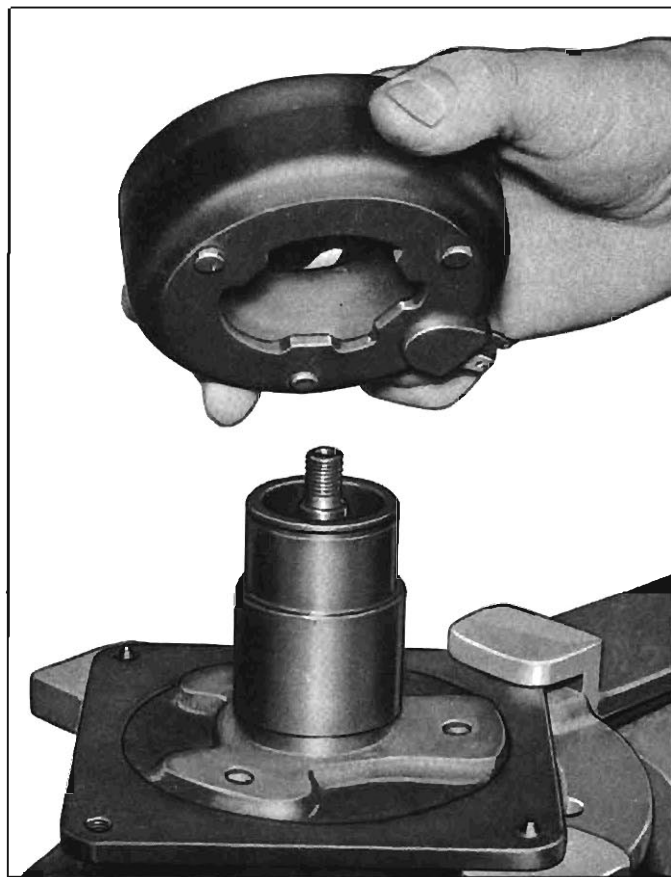

Fig. 11-38—Installing Coil Housing
1. Rotate the coil housing to the correct position as indicated by the scribe marks and the location of the electrical terminals and fit into place. (fig. 11-38).